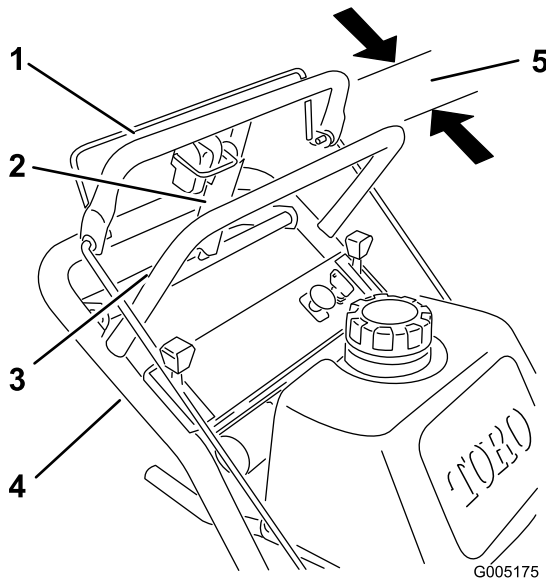

Figure 36
1. Check the gap between upper control bar and fixed bar with wheel drive fully engaged. The gap should be approximately 1 to 1-1/4 inch (25-32 mm) (Figure 36).